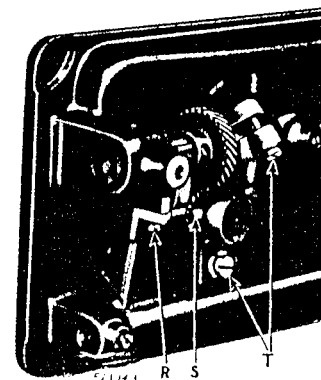
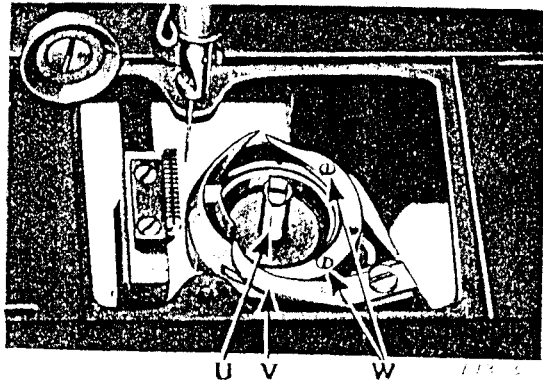
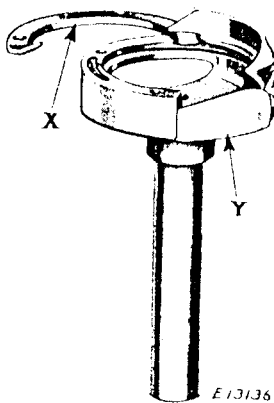

Fig. 18. Adjustment of Hook Saddle
Fig. 19.
Fig. 20. Sewing Hook Removed from Machine,
Remove the throat plate; clean the lint and dust from between the feed points and replace the throat plate; tip the machine back and turn the balance wheel until the feed dog is at its highest position; loosen screw (R, Fig. 18) in the feed lifting cam fork and raise or lower the feed dog as required, then tighten the screw (R).
Loosen the two screws in the hook shaft gear (S, Fig. 18) and turn the sewing hook until the point of the hook is at the center of the needle, after which securely tighten the two screws in the gear, leaving just enough play in the shaft for lubricating purposes.
Turn the balance wheel over toward you until the point of the sewing hook is at the center of the needle. Loosen the two screws (T, Fig. 18) underneath the bed of the machine and move the hook saddle to the right or left, as may be required, until the point of the hook is as close to the needle as possible without striking it, then securely tighten the two screws (T).
The function of the hook washer (needle guard) (Y, Fig. 20), which is attached to the bottom of the sewing hook, is to prevent the point of the hook from striking the needle if, when passing through the material, the needle is deflected toward the hook.
Remove the two hook gib screws (W, Fig. 19) from the sewing hook, lift off the hook gib (X, Fig. 20) and remove the bobbin case base (U, Fig. 19).
Remove the throat plate, feed dog and the bobbin case opening lever (V, Fig. 19). Also remove the bobbin case base, then take out the two screws from the hook shaft gear (S, Fig. 18) and lift out the sewing hook.